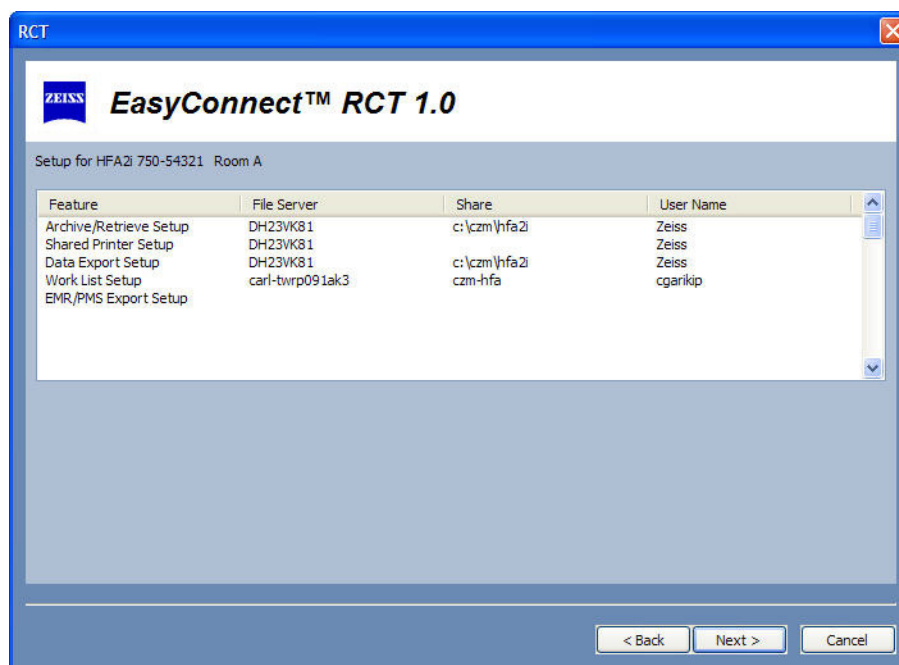

Figure G.41 Feature Configuration Details for a Selected Instrument
- 4 After displaying network settings for the last selected instrument, the RCT will display the feature configuration details for each selected instrument, one instrument at a time (Figure G.41). Select NEXT to continue to the next selected instrument.